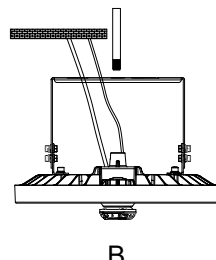

Fig 10
3. Re-screw the nuts. (Fig 10)